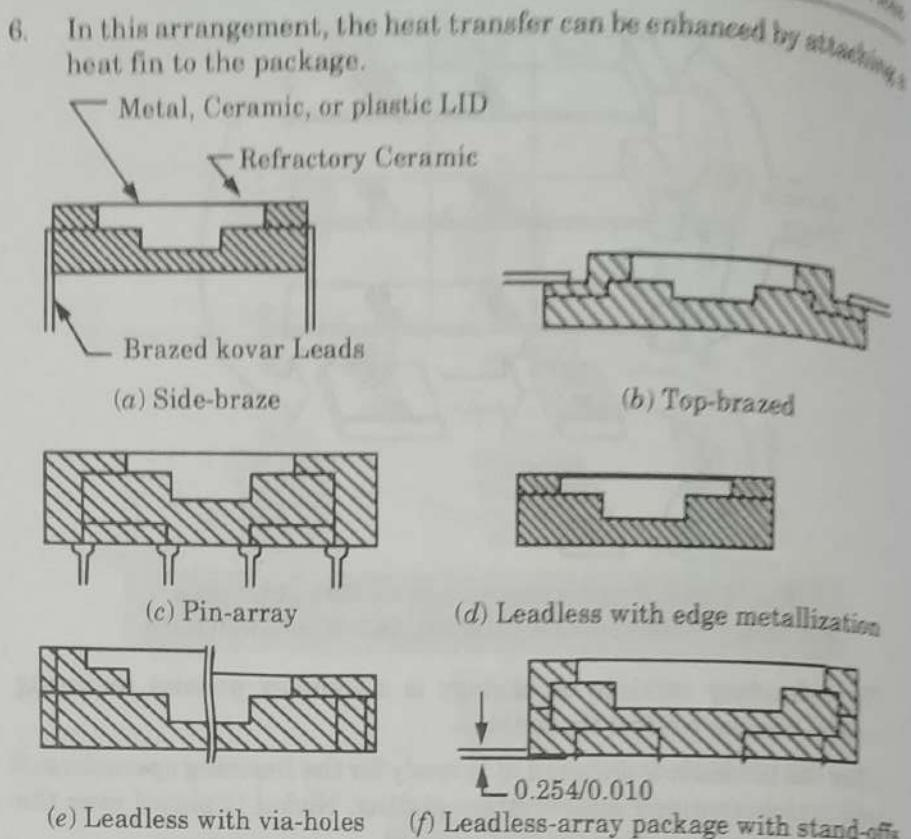

Fig. 5.20.2. Cross-sectional sketches of several package types.
1. Fig. 5.20.2 illustrates a variety of potential refractory-multilayer-ceramic package types.